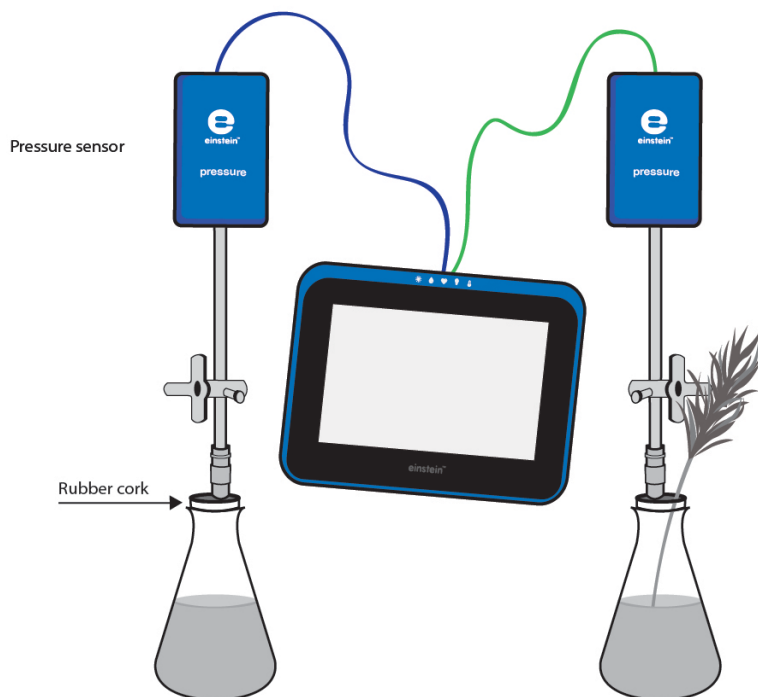

Figure 3
2. Assemble the equipment as illustrated in Figure 3.